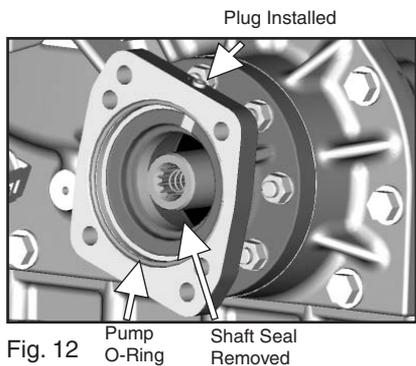

Fig. 12
- a. Wet spline installation will be the same as above (step through the pump mount installation item 4 page 12)
- b. The P.T.O. housing will not have an oil seal and there will be a "plug" (1/8" NPT) in the housing (**Fig. 12**).
- c. Install O-Ring that is supplied with kit in flange as shown (**Fig. 12**).